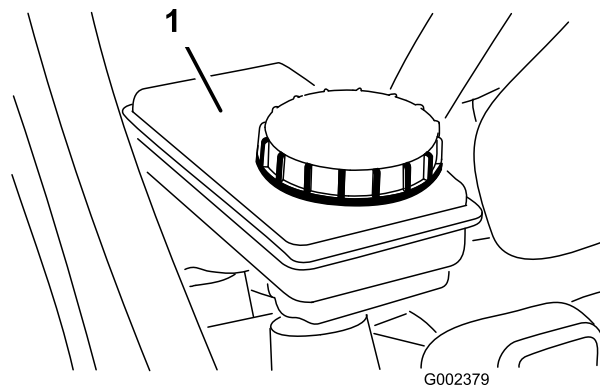

Figure 55
5. Ensure that the fluid level is up to the Full line on the reservoir (Figure 55).
6. If the fluid level is low, clean the area around the cap, remove the reservoir cap, and fill the reservoir to the proper level with the specified brake fluid (Figure 55).